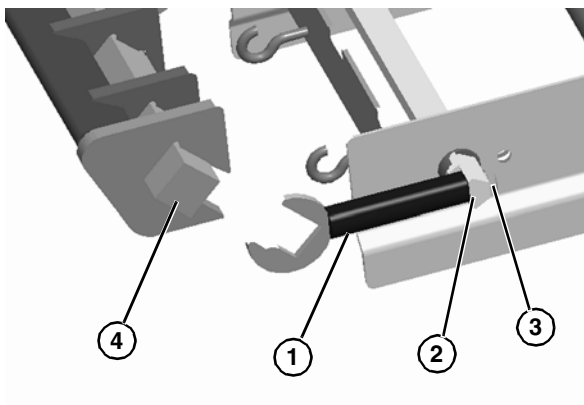

Figure 24
1. Place the nose bar idler shafts (**Figure 24, item 1**) against the holes in the hex shaft assembly (**Figure 24, item 2**) and secure each with a bolt (**Figure 24, item 3**).
2. Attach the nose bar transfer post (**Figure 24, item 4**) to the nose bar idler shafts.